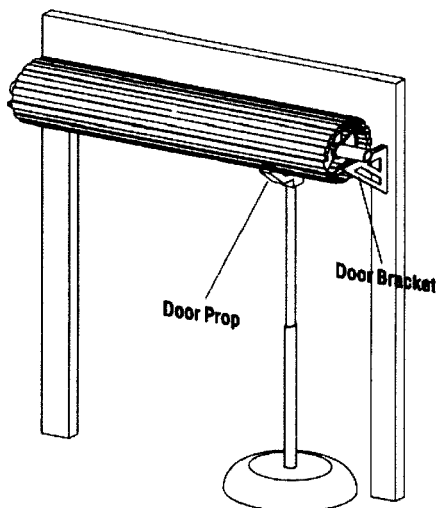

Fig 4
- 1.5 Place a suitable prop under the garage door as close to the edge (to which the AGDO will be installed) as possible. The prop should be adjusted so that it sits firmly under the garage door. (Fig.4)